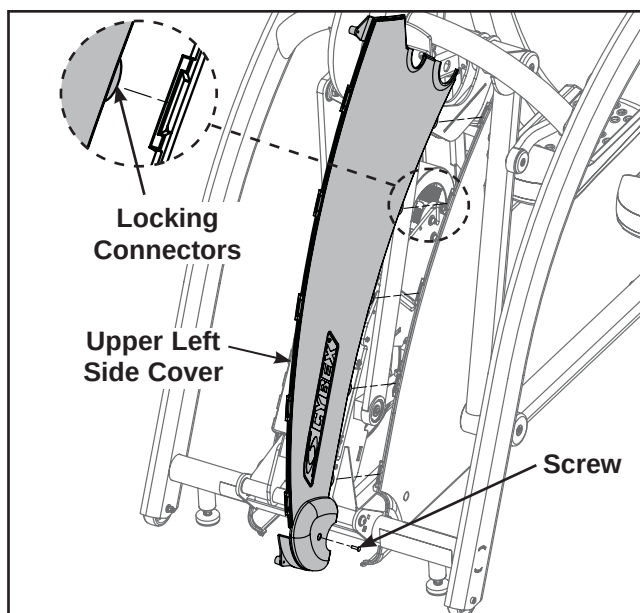

Figure 4
A. Using a Phillips screwdriver, remove the screw securing each upper side cover. See Figure 4 .